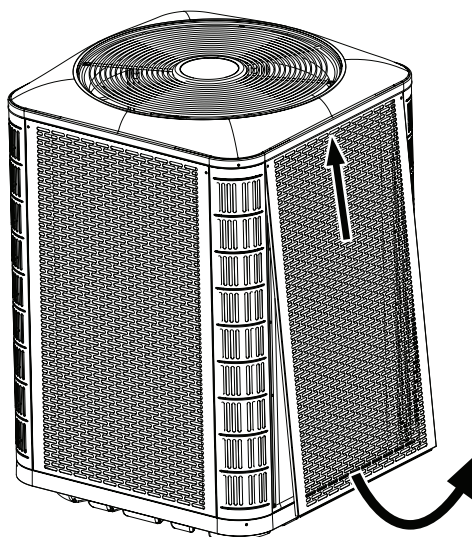

Figure 5. Panel Removal
- To access the outdoor coil on units equipped with louvered panels, refer to Figure 5 for panel removal and Figure 6 for panel installation.
2. Slide the panel up towards the top pan in order to clear the bottom flange from the base pan. See Figure 5.